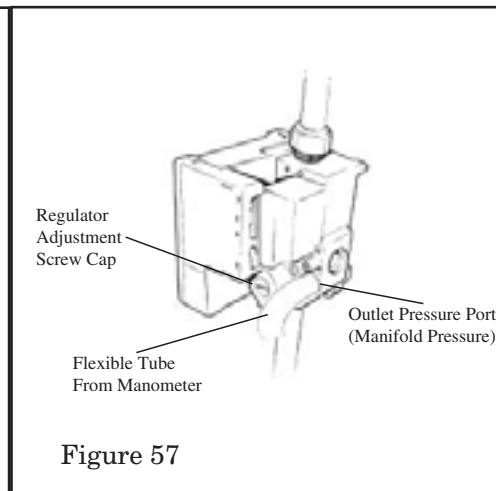

Figure 57
- Attach flexible tubing from manometer to the gas valve outlet pressure port. See Figure 57.